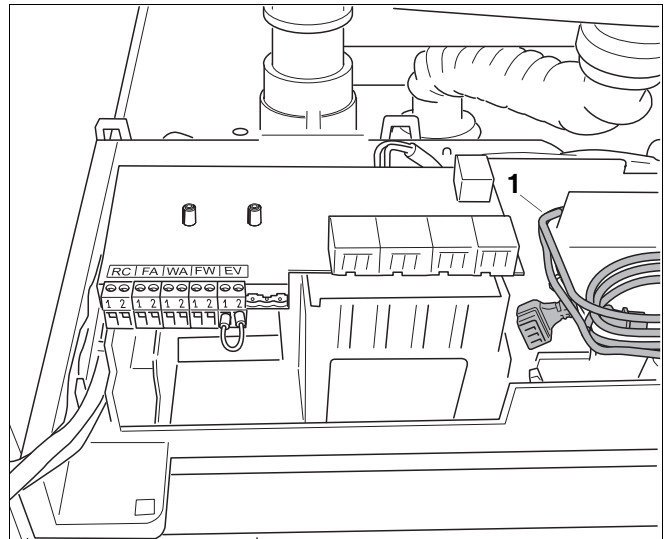
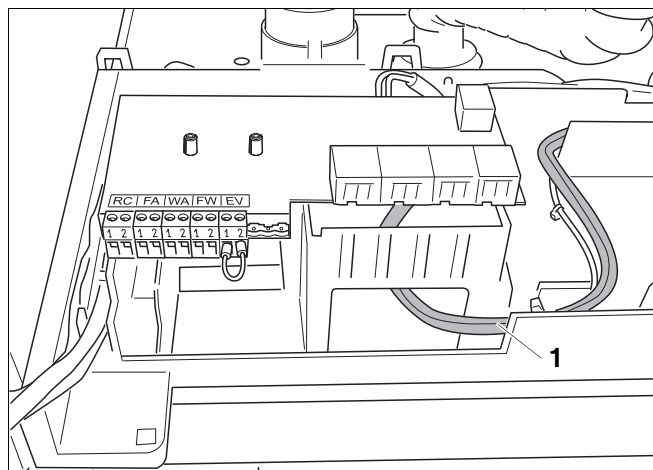

fig. 20 Laying the pump connection cable
fig. 21 Laying the pump connection leads
- Lay the pump connection cable from the boiler through the hole under the electrical connection box downwards (see fig. 20, **item 1** and fig. 21, **item 1**).